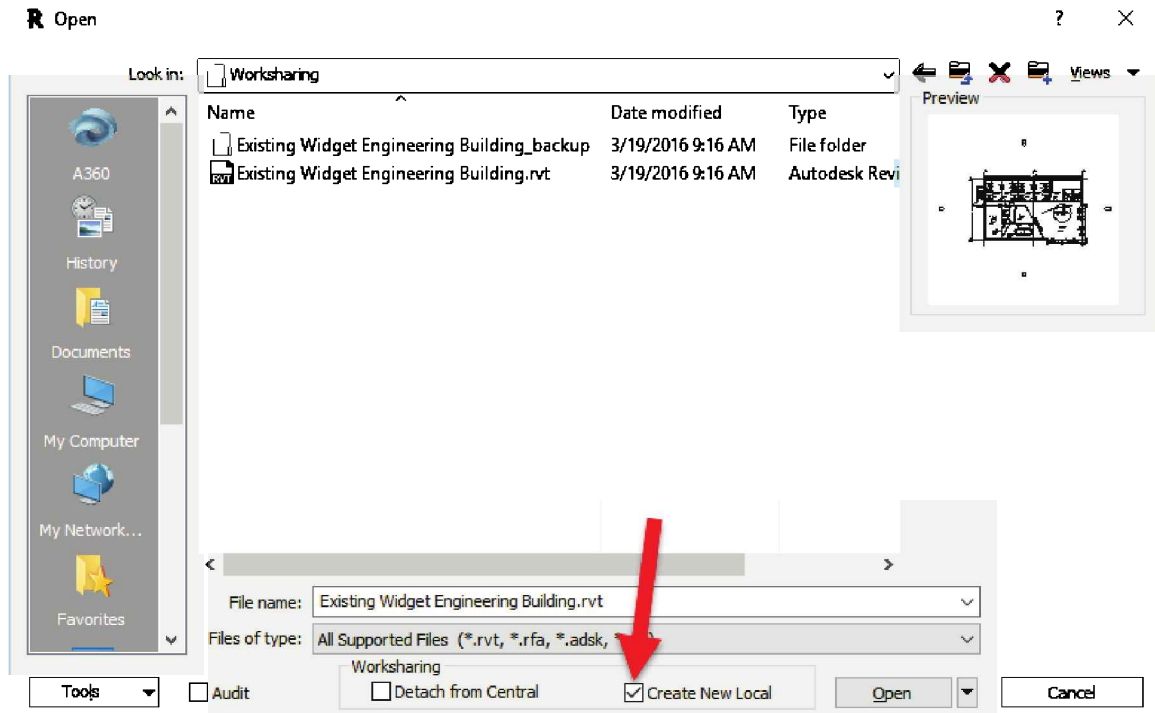

FIGURE 16-4.8 Central file selected; Open dialog
11. **USER A:** Browse to and select the Central File, which is the same file and location from which this section was started (See Figure 16-4.8). **Do not double-click or open the file yet.**
In the Open dialog (Figure 16-4.8) Revit can detect that the selected file is a Central File. When a Central File is selected, and the file version matches the version of Revit you are using, the **Create New Local** option is automatically checked. This is good—each user will always work in a Local File.
User A is now in a Local File, which has a special connection back to the Central File. In the background, the Central File was copied to the local Documents folder and renamed to include the username as a suffix (Figure 16-4.8).